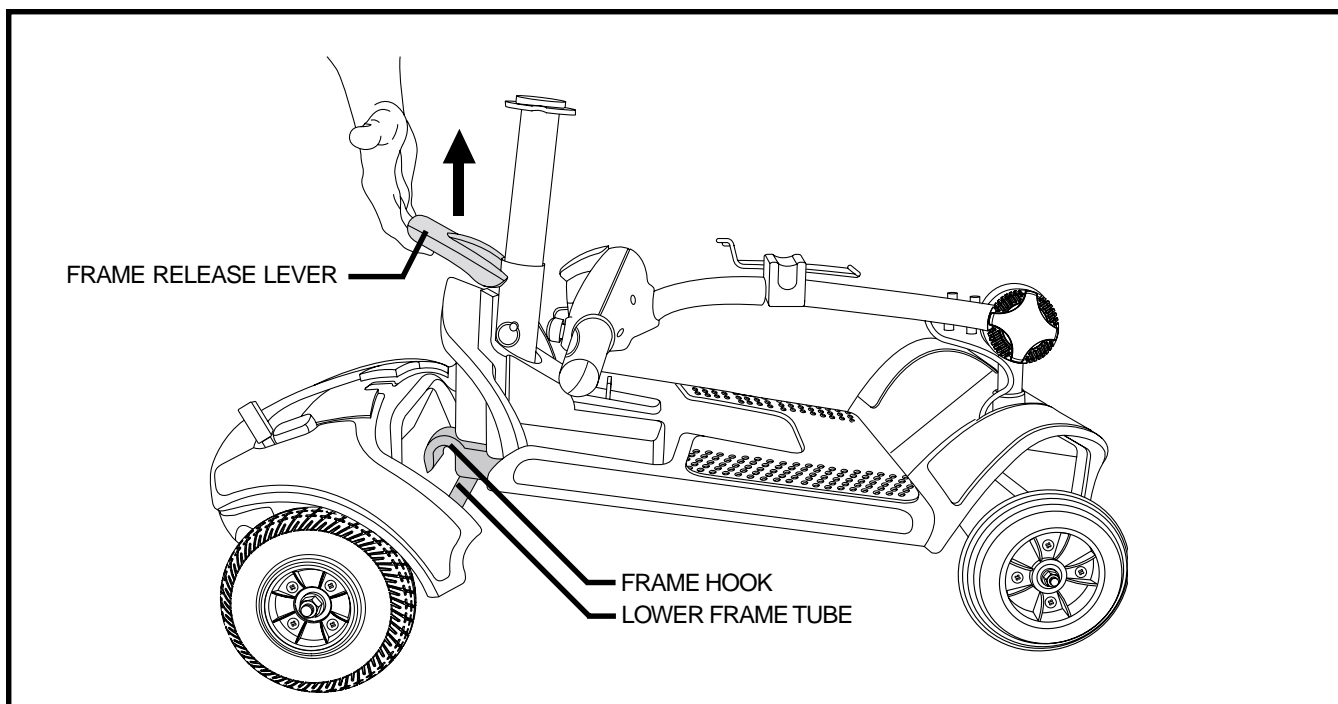

Figure 19. Frame Separation
2. Lift up on the frame release lever until the frame hooks are no longer resting on the lower frame tube. **See figure 19.**
3. Slowly separate the two sections of the Travel Scooter. **See figure 19.**
NOTE: Before attempting assembly, tilt the rear half of the Travel Scooter slightly back on the anti-tip wheels as show in figure 19.
1. Use the frame release lever to lift the front section as you align the frame hooks of the front section with the lower frame tube of the rear section. **See figure 19.**